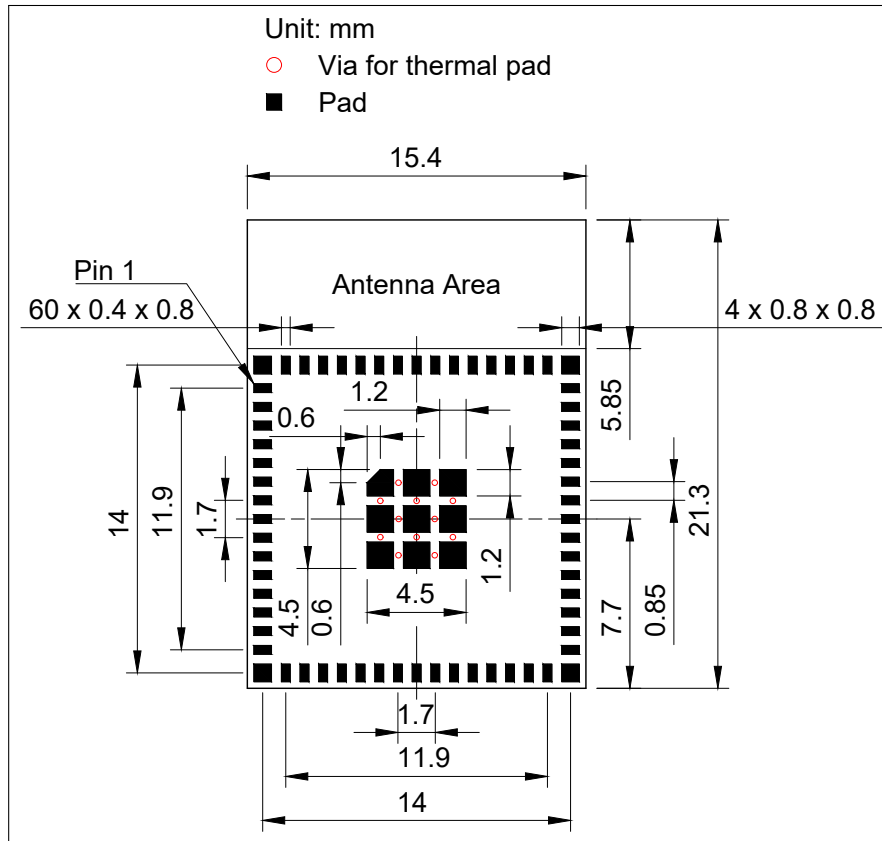

Figure 11-1. ESP32-C5-MINI-1 Recommended PCB Land Pattern
- Source files of recommended PCB land patterns to measure dimensions not covered in Figure 11-1. You can view the source files for ESP32-C5-MINI-1 with Autodesk Viewer.